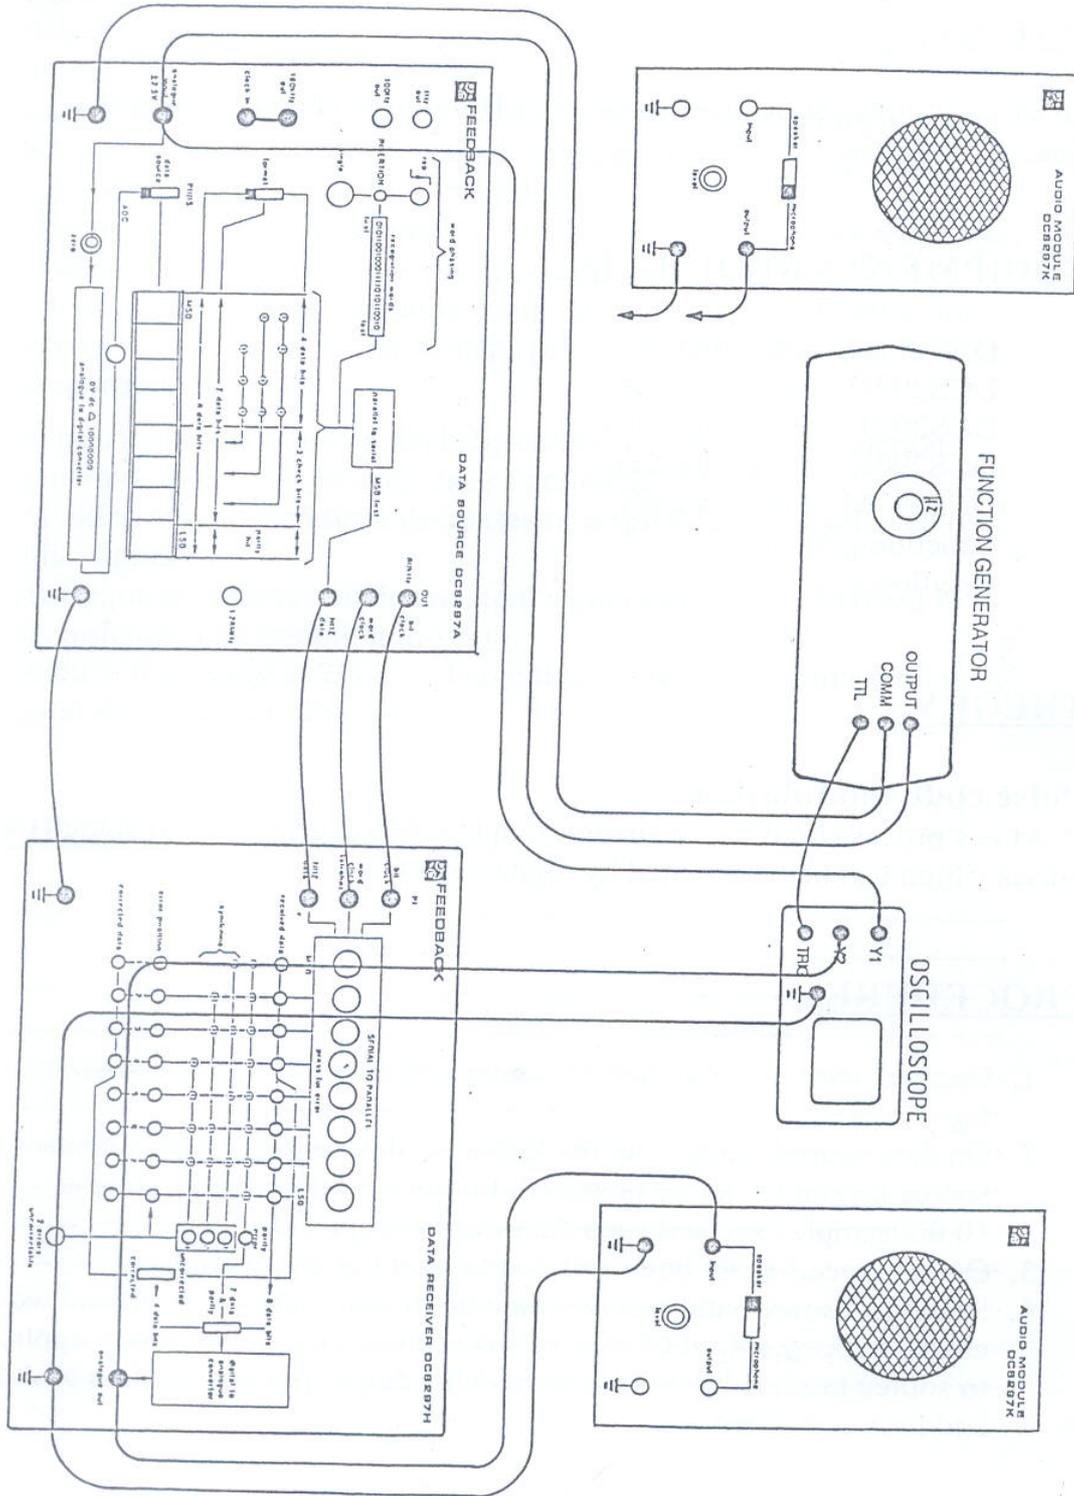

Figure 4.2
- Connect modules, function generator and oscilloscope as shown in Figure 4.2.